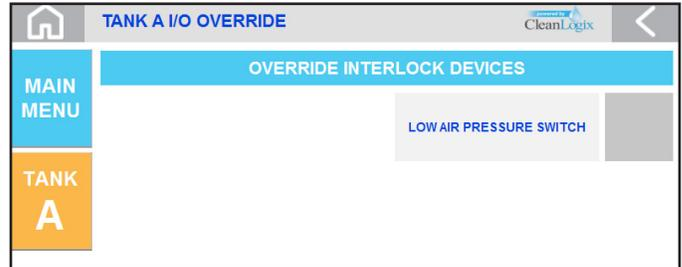

Figure 16.1: I/O Override Screen
- Allows safety switches to be overridden in the event of failure, to keep the system running while replacement parts are on order [Figure 16.1].